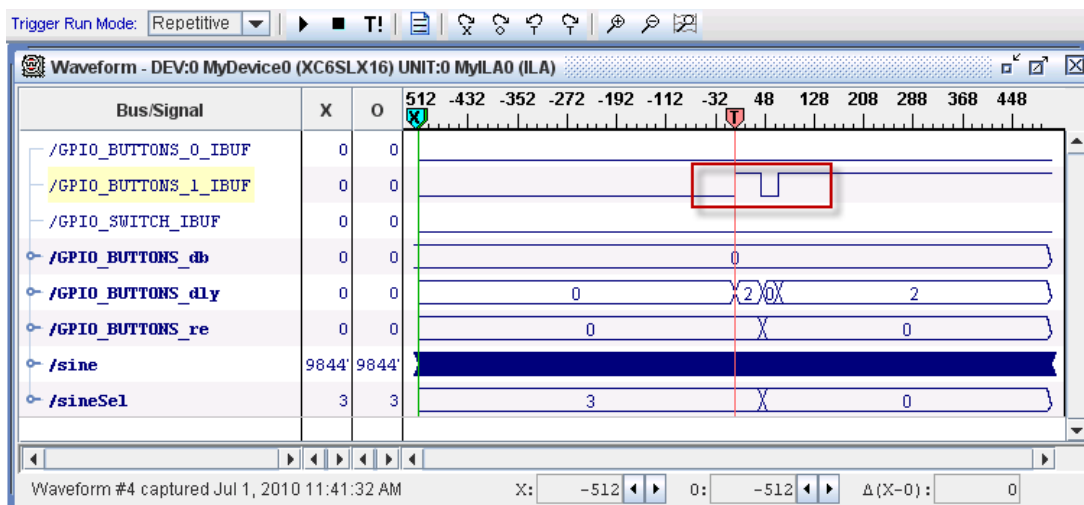

Figure 17: GPIO Buttons_1_IBUF Signal Glitch
7. On the board, press the *Sine Wave Sequencer* button until you see multiple transitions on the GPIO_BUTTONS_1_IBUF signal (this could take 20 or more tries). This is a visualization of the glitch that occurs on the input. An example of the glitch is shown in Figure 17.